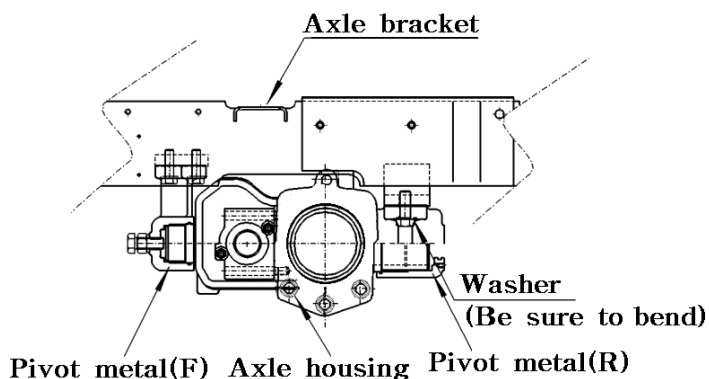

Fig.6-7
- The shim of the roll bush should reach position as shown Fig.6-7. In other words the seam should be in a position which is free from any load.